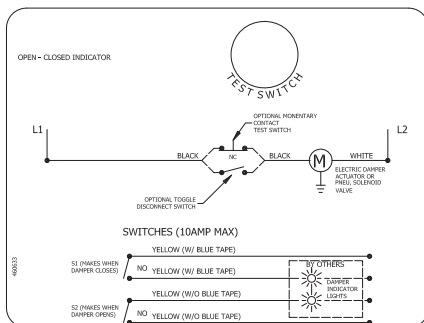

Figure 24: OCI
**OCI** - The OCI (open or closed indicator) option contains two single pole single throw switches used to indicate the damper blade position. The switches provide a positive open and closed signal and can be used in conjunction with remote indicator lights. Refer to **Figure 24** for wiring of the OCI option.